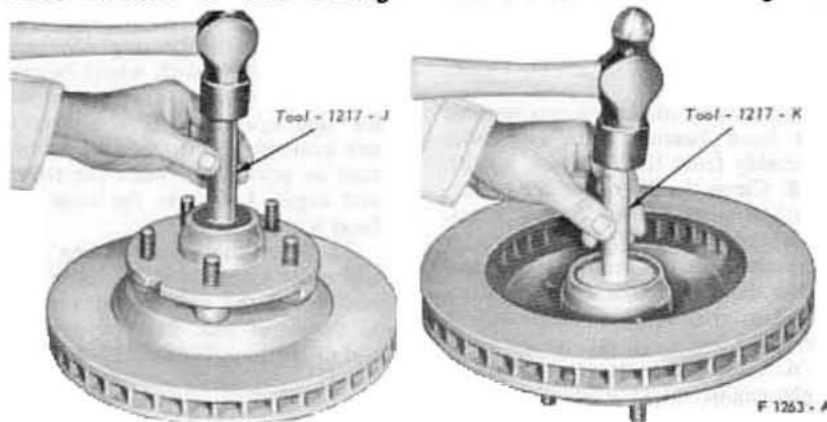

Fig. 91—Front Wheel Bearing Cup Installation
11. If the inner and/or outer bearing cup(s) were removed, install the replacement cup(s) in the hub with the tools shown in Fig. 91. Be sure to seat the cups properly in the hub.